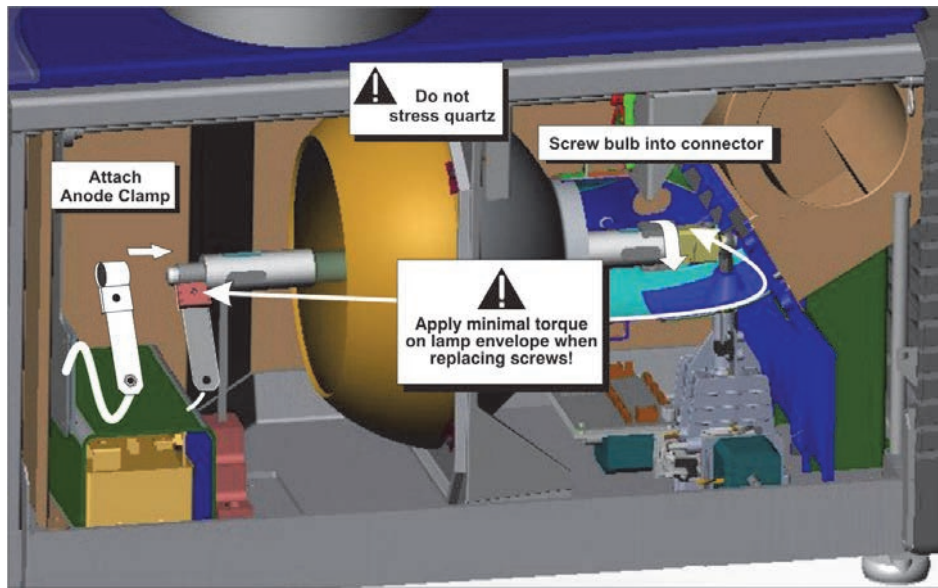

Figure 6-2 Install New Lamp
- b. Insert the threaded cathode (-) end of the lamp into the negative lamp connector nut located in the rear of the lamp compartment. (Figure 6-2) Using both hands, hand-tighten this end into the threaded nut. **Caution! 1) Handle the lamp by the cathode/anode end shafts only, never the glass. DO NOT over-**
- c. Rest the anode (+) end of the lamp on the anode yoke and slip the positive lamp connector over the bulb end. **(Figure 6-2)** Using the 5mm Allen key, squeeze together with the anode clamp making sure not to place any torque on the lamp quartz tube. **Important!** For CDXL-30SD lamps, make sure the “flat” part of the anode end of the lamp (if applicable) is facing in the 10 or 2 o’clock position once the lamp finger is installed in the 14mm threads and the clamp screw is tightened. For all other lamp types, keep the “flat” part of the anode end of the lamp facing up. **WARNING! Explosion hazard - Do not apply torque to the anode end of the lamp.**